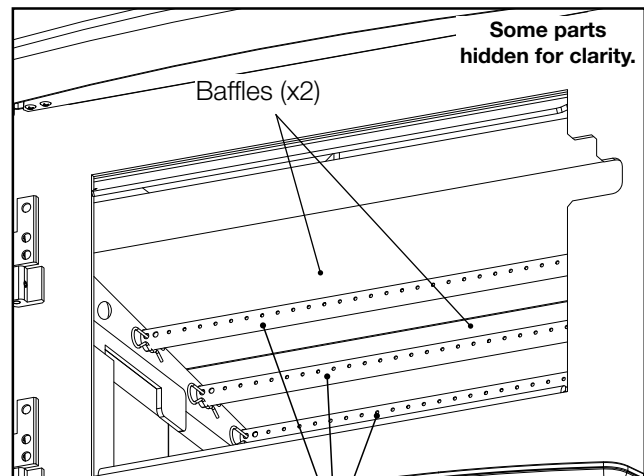

Fig. 4-6
- A.** Carefully pivot two “E” fibre baffles up onto the secondary air tubes as illustrated (**Fig. 4-6**). **Installation of the baffles may be facilitated by removing the two front secondary air tubes (see “secondary air tubes” section).** Ensure that the baffles are pushed all the way to the rear of the firebox, leaving a minimum of a 1 inch gap along the front. This will allow the flue gases to escape the firebox. Ensure the overlap joint is tight and the notch is facing towards the front.